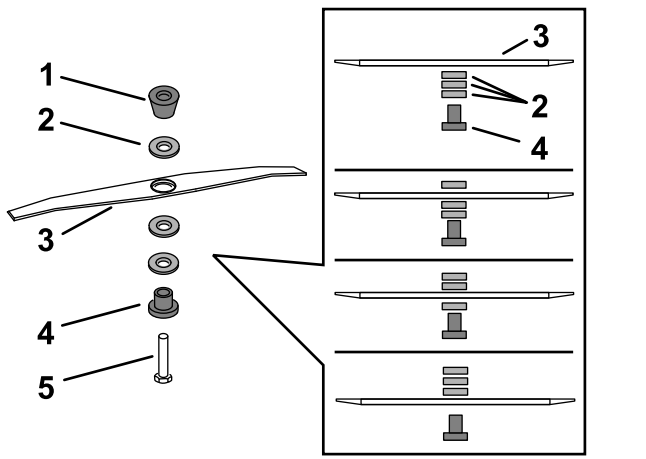

Figure 29
- Use the wrench provided with the machine to remove the blade by rotating the blade bolt counterclockwise (Figure 29).